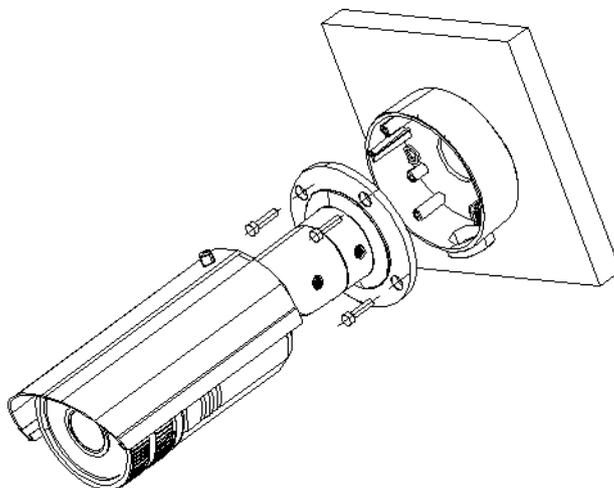

Fig 3.3.2 Fix the camera
Step 2: Use screws to fix the mounting bracket with camera main body to wire hidden box as shown in Figure 3.3.2.